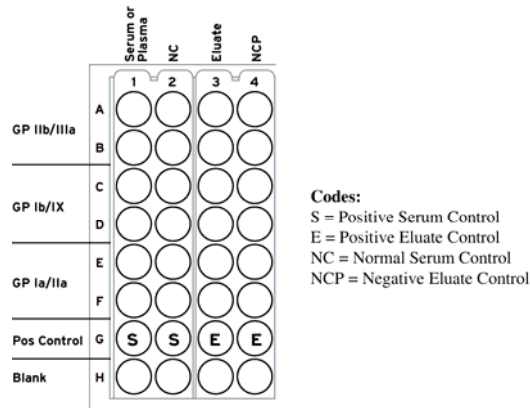

Figure 1
12. Add 50  $\mu$ L of the appropriate eluate or diluted control or sample to the wells of one column shown in Figure 1.